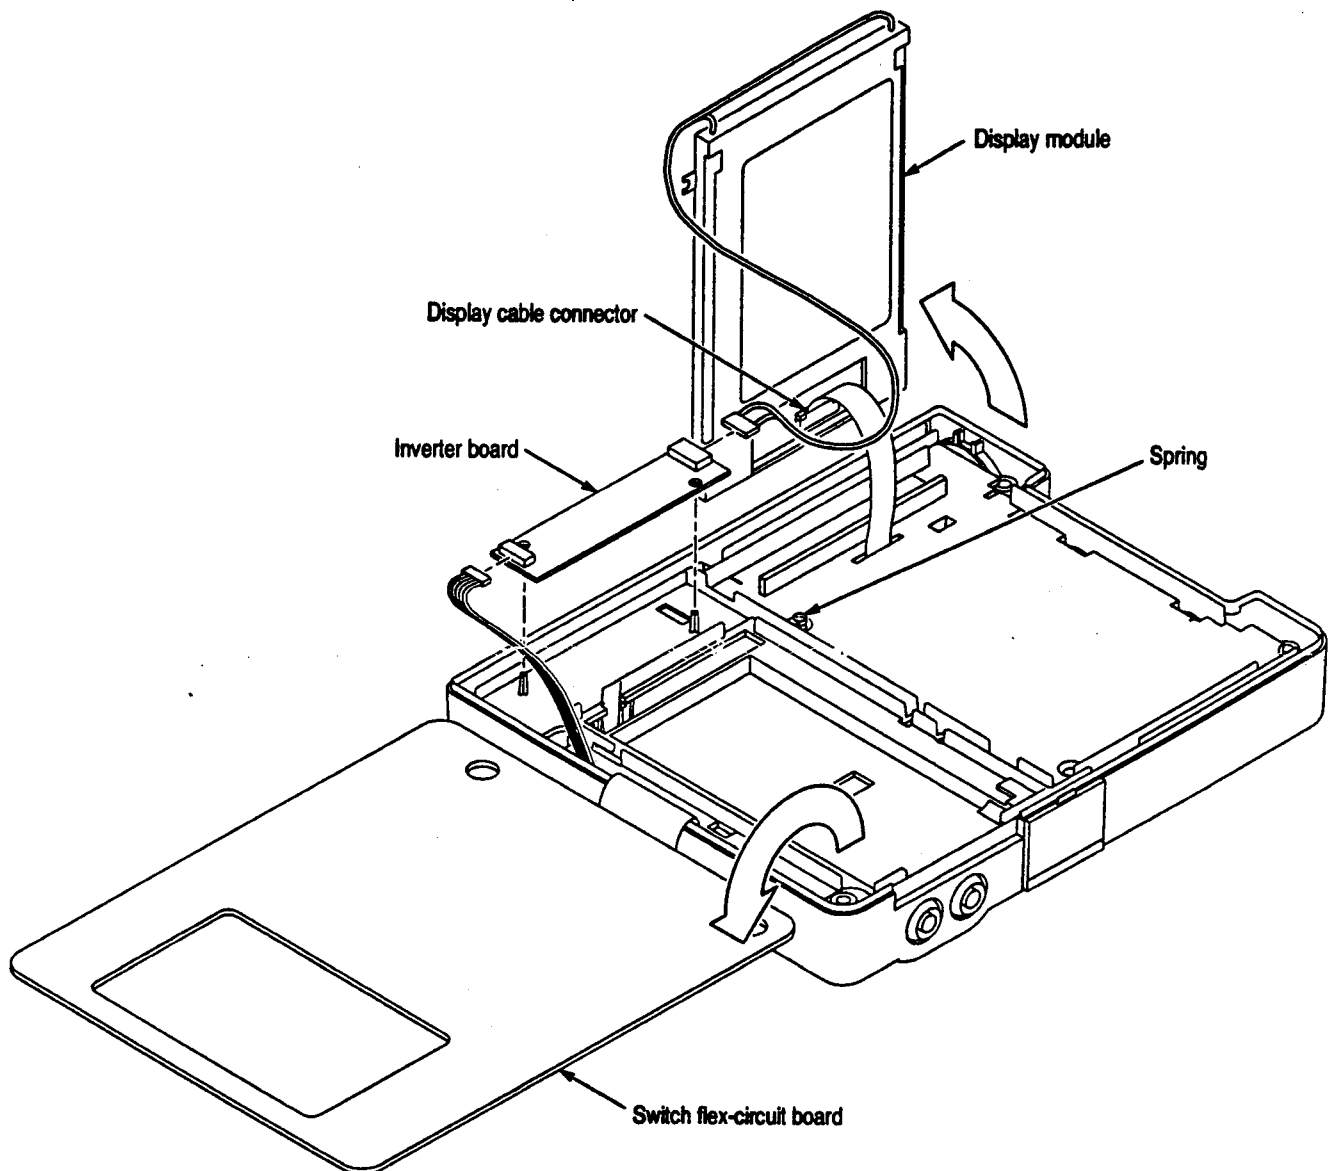

Figure 1: Removing the display module
- b. Lift the right side of the display module out of the chassis and fold the display module to the left, as shown in Figure 1.
- e. Remove the display tension spring. See Figure 1.
2. Hold the display module upright as shown in Figure 1.